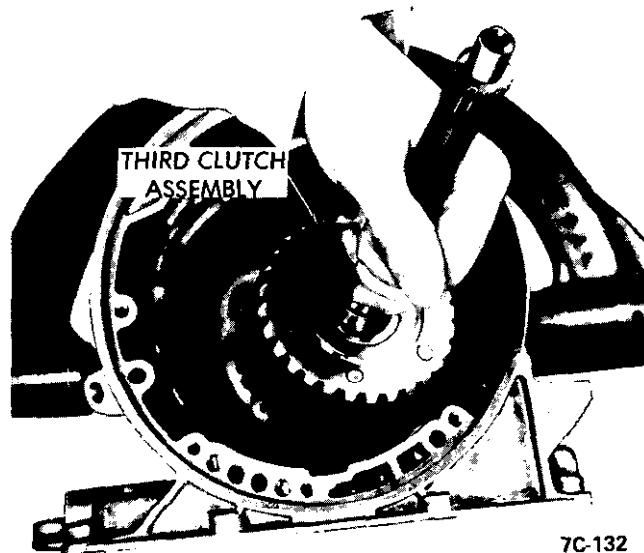

Figure 7C-132
2. Remove planetary carrier and output shaft by sliding out through front of case. See Figure 7C-133. Care should be taken not to lose the needle thrust bearing and race in the planetary carrier assembly.